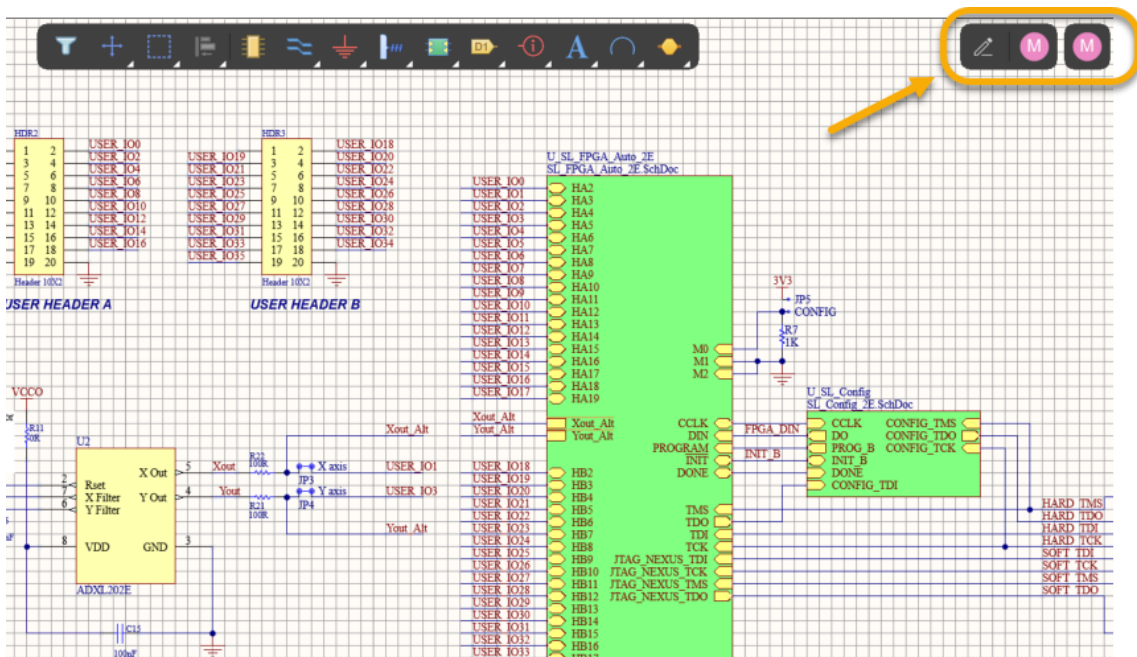

Figure 3. Document with Modification
- If other users modify the document the icon change and you see a pen, , , Figure 3.